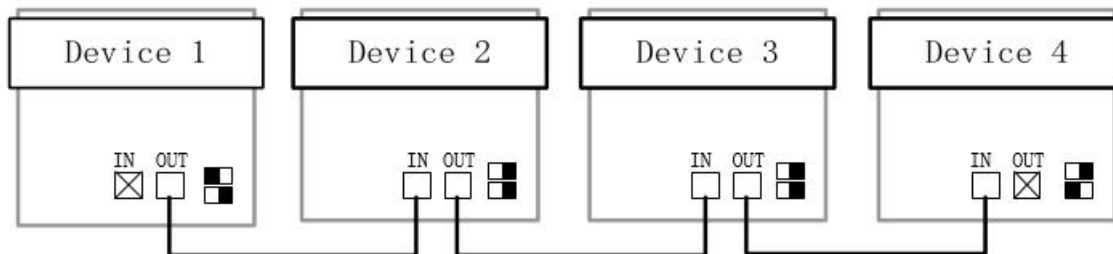

Figure 4-2 Cascade diagram of four units
- Shift the I/O (OUT) DIP switch on the back of the first Galaxy Neo to the right (as shown for Instrument 1 in Figure 4-2, while the I/O (IN) DIP switch remains on the left). Then, insert the cascaded communication cable provided by Igenesis into the CAN OUT port of the first instrument, and connect the other end of the cascaded communication cable to the CAN IN port of the second instrument. At the same time, shift the I/O (IN) DIP switch of the second instrument to the right. If you need to continue the cascading, you can repeat the process of inserting the communication cable into the CAN IN/OUT ports of the instruments while shifting the I/O (IN/OUT) DIP switches to the right to open them. If the CAN IN/OUT ports do not need to be connected with the cascaded communication cable, the corresponding I/O (IN/OUT) DIP switches should be left in the closed state (on the left). Follow the above method to complete the physical connection of up to four instruments.